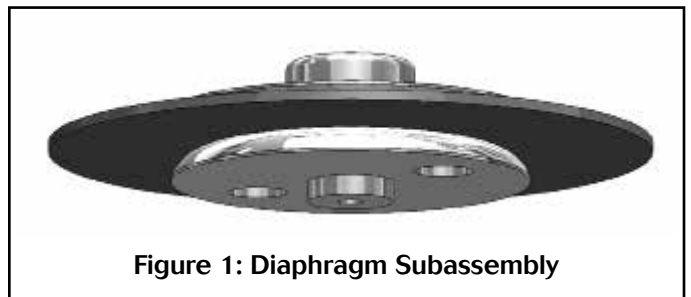

Figure 1: Diaphragm Subassembly
1. Remove adjusting screw assembly (12) completely out of the spring housing (11).
2. If valve is removed from the line, clamp the valve in a vise using the body (1).
3. Remove spring housing (11).
4. Remove range spring (5) and spring seat (10).
5. Remove diaphragm assembly parts (2), (3), and (4). See Figure 1.
7. Remove seat holder (8), seat (9) and plug (7) from body (1).
8. Place new plug (7) into body chamber. Make sure the bottom stop rod (bigger end) of the plug (7) goes down inside the return spring (6).
9. Place the new seat (9) into the seat holder (8) and carefully install into body cavity (1) taking care not to bend the narrow rod on top of the plug (7) when it passes through the seat holder (8). Tighten 30° past contact.
10. Refer to Figure 1. Unscrew the lower diaphragm plate (4) from the upper diaphragm plate (2). Discard the old diaphragm (3) and reassemble with new one. Use LowFlow replacement diaphragm only. Place diaphragm assembly parts (2), (3), and (4) back into body cavity (1), making sure the small counterbore on the bottom of lower diaphragm plate is properly engaged with the narrow tip of the plug (7) which protrudes through the seat holder (8).